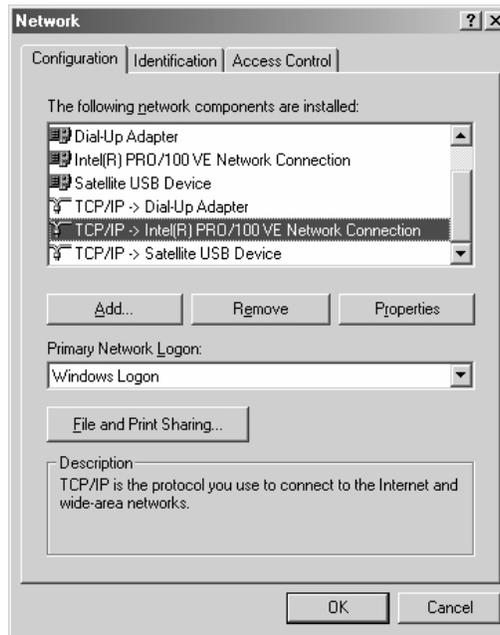

Figure 102: Network window
2. A list of network components appears. See Figure 102.